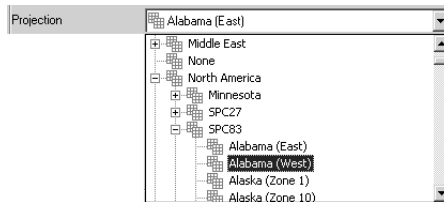

Figure 3-18. Projection List
- A projection name for the coordinate type (Figure 3-18).